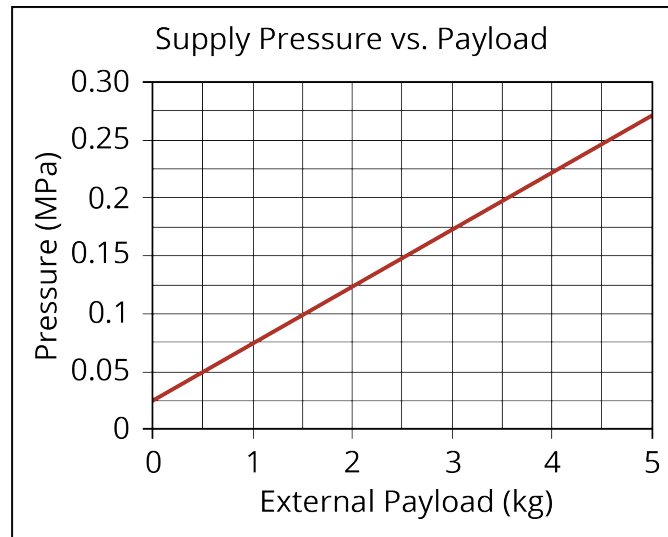

Figure 2-5: Counterbalance Pressure vs. External Payload
This relationship is shown graphically in Figure 2-5.
3. Connect the airline to the air supply, and slowly turn on the supply pressure to the counterbalance. The pressure supply should exceed the pressure determined by Figure 2-5.